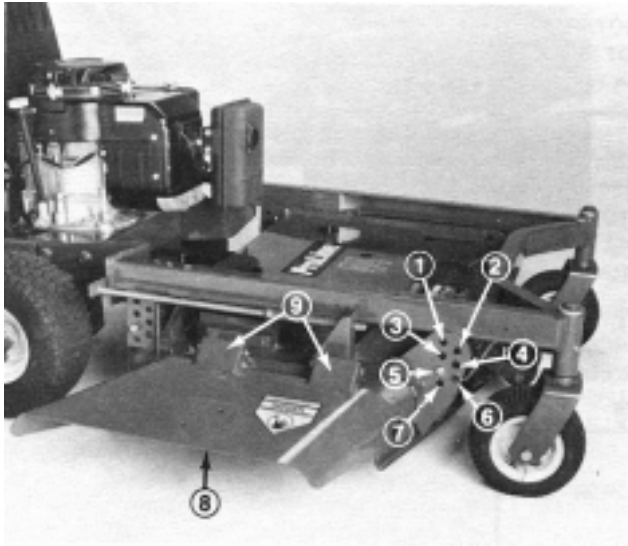

Figure 5
2. Mount cutting unit to carrier frame with four (4) clevis pins and hair pin cotteners (Fig. 5).
The height-of-cut is adjustable from 1" to 4" or 2" to 5" (depending on traction unit) in 1/2" increments by relocating clevis pins in different hole locations in brackets at each corner of cutting unit (Fig. 5). Stop engine before making height-of-cut adjustment.